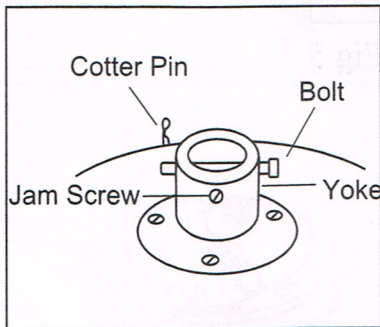
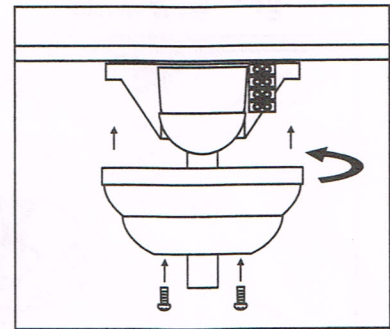

Fig 4-1
Fig 4-6
6. After wiring is completed, attach the canopy to the hanger bracket by pushing upwards and twisting anti-clockwise. Locate screws in keyholes and tighten. (See fig 4-1 ~ fig4-6)